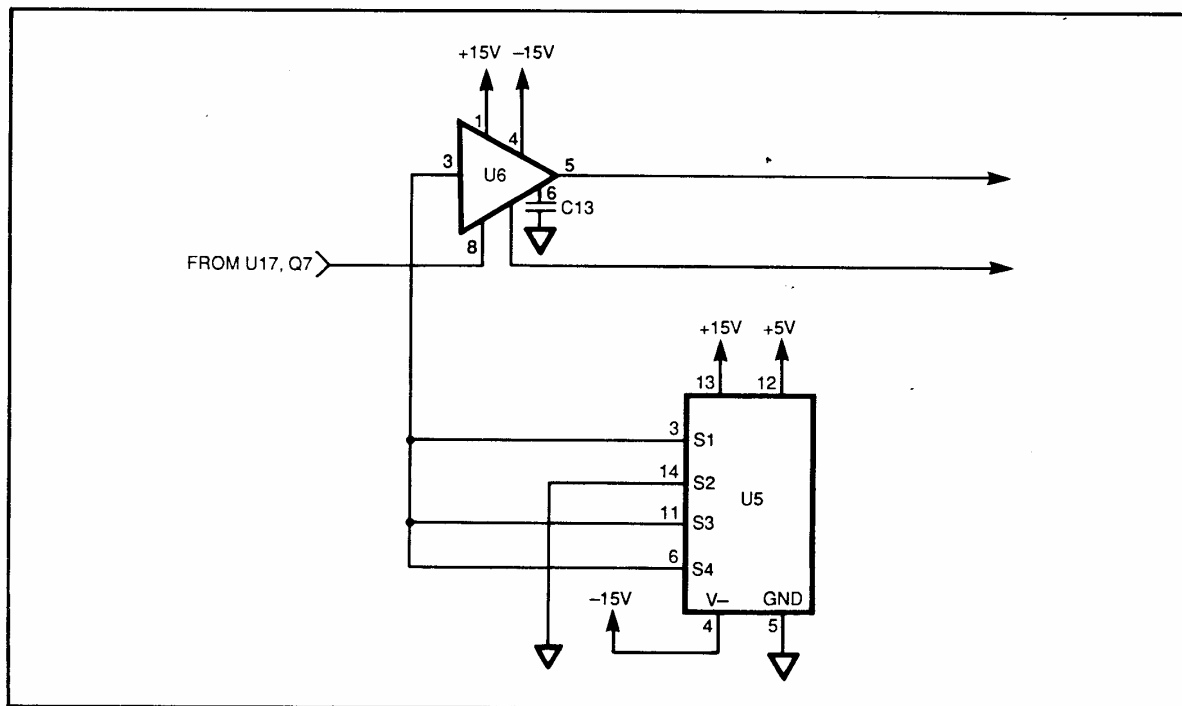

Figure 8-33. Sample and Hold Circuitry
- f. Sample and Hold. The output of the smoothing filter circuit is connected to the sample and hold amplifier, U6 (Figure 8-33), through a two way multiplexer, U5. This multiplexer is a FET switch circuit, switching between reading the output of the linear amplifier and